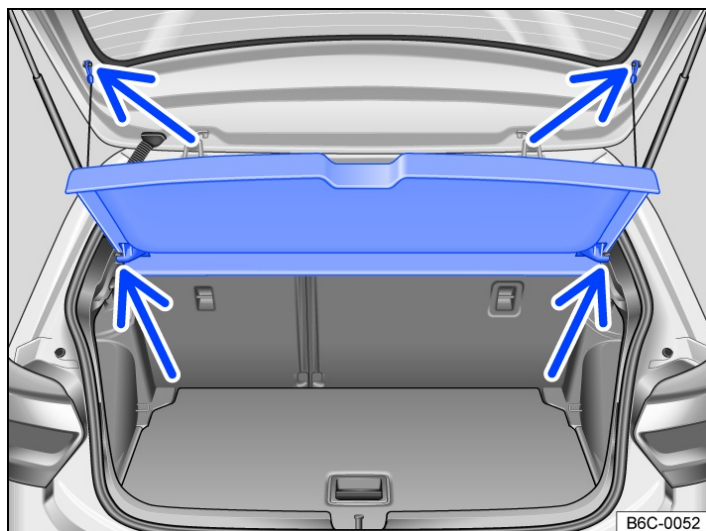

Fig. 1 In the luggage compartment: removing and installing the luggage compartment cover.
- Unhook the retaining straps from the boot lid → *Fig. 1* (upper arrows).
- Pull the luggage compartment cover out of the side retainers → *Fig. 1* (lower arrows).